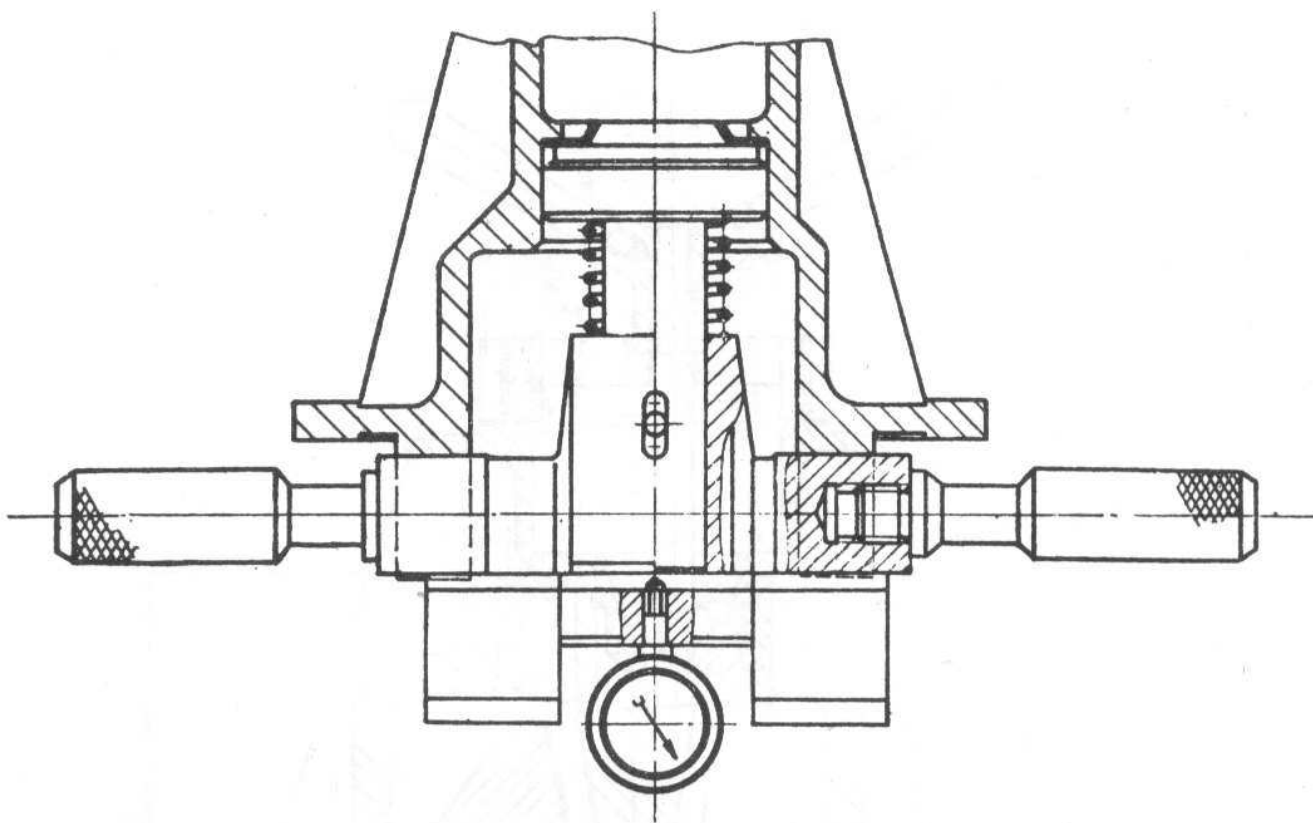

Fig. 4.130. MEASURING DIMENSION "B" BY USING V 111 CHECKER
- Set in the housing special V 111 measuring instrument and measure the dimension "B" (see Fig. 4.130). Dimension "B" (see Fig. 4.128) will be: